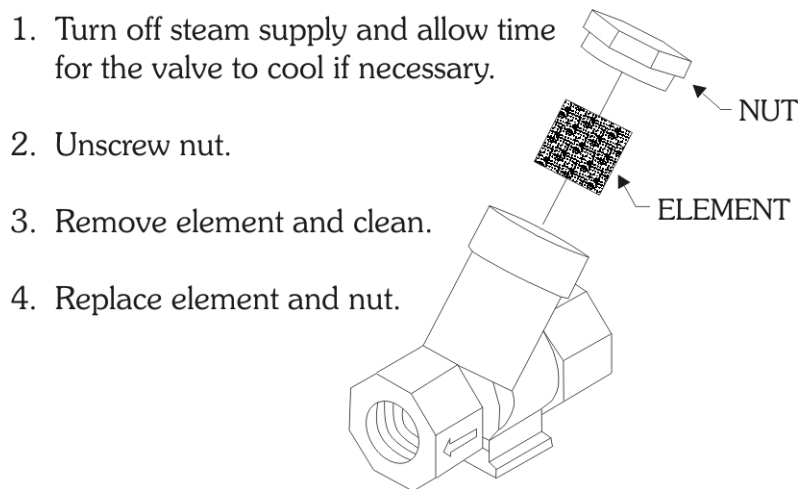

Figure 6.4: Steam Trap Service
4. Clean steam filter, where applicable. See figure 6.4.